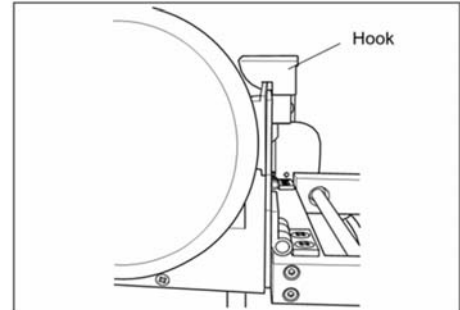

Figure 7 .
- Make sure that the rim of back side of the oxygenator and the hook of the exclusive holder are connected to the slide hook (Figure 7).